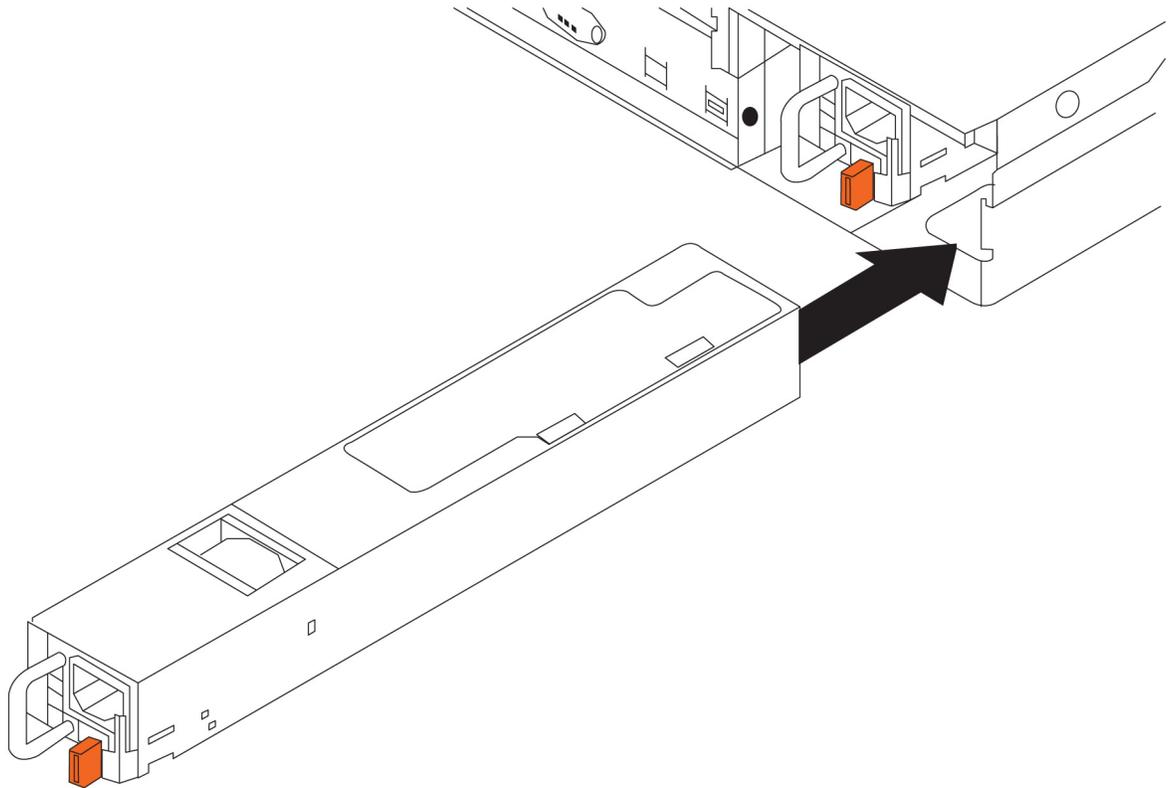

Figure 10: Removing the power supply from the back of the appliance
- 1 Remove the failed power supply from the power supply bay by pinching the side clip and pulling the failed power supply from the bay, as shown in Figure 10: Removing the power supply from the back of the appliance on page 16.